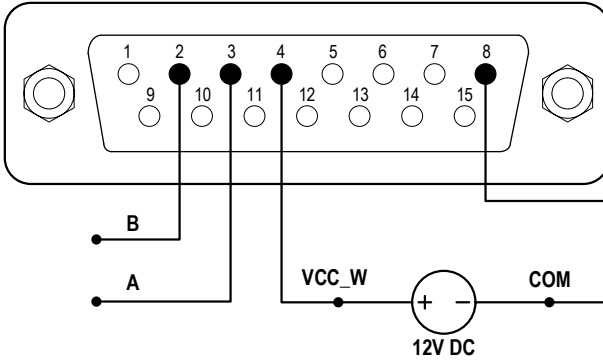
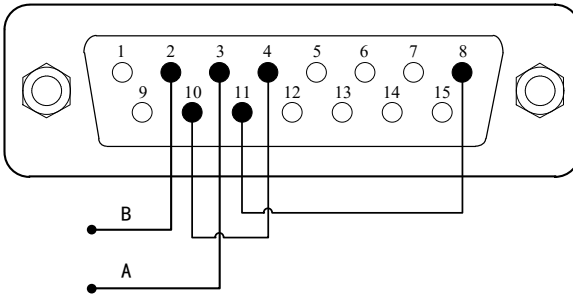

Figure 55 Control Start/Stop with an External 12V Power Source
Figure 56 Control Start/Stop with the Internal 12V Power Source
- 1) Turn the power off. Wire the DB15 connector as shown in Figure 55 or Figure 56, and connect it to the DB15 port on the rear of the pump.